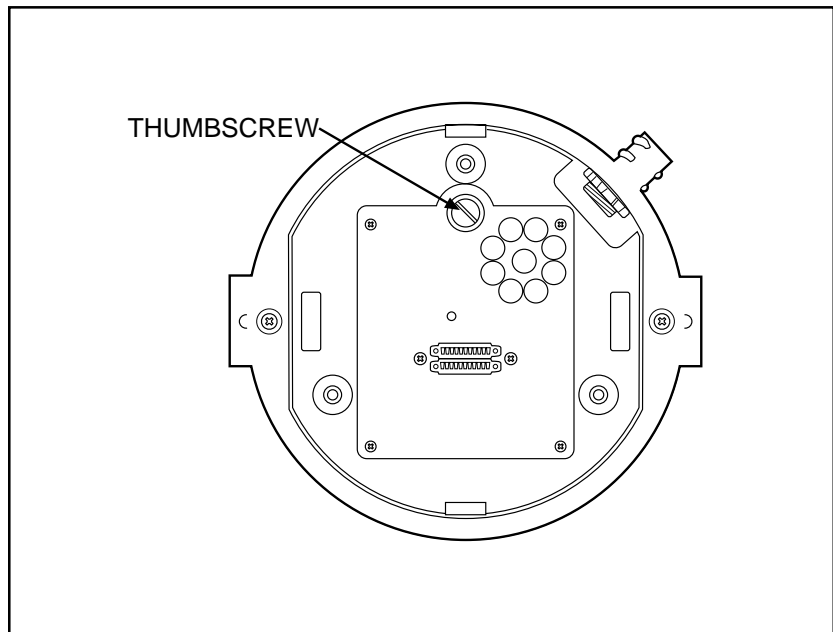

Figure 8. Interconnect Door
To do this, loosen the thumbscrew inside the back box and open the hinged door (refer to Figure 8). Bring the wiring into the back box through the conduit fitting. Follow the steps in Section 3.4, "Back Box Connections," and then return to this section.
3. Refer to Figure 8. Loosen the thumbscrew inside the back box and open the hinged door.